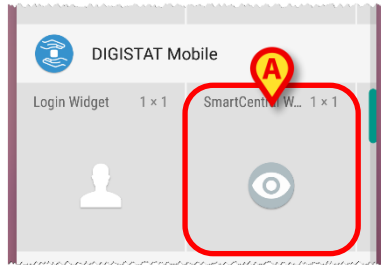

Fig 222
- Push the icon shown in Fig 222 **A** and release it on the device screen.